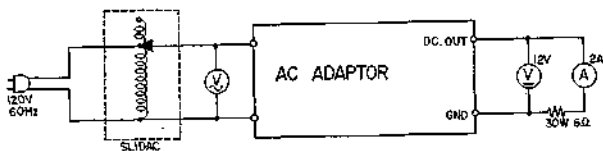
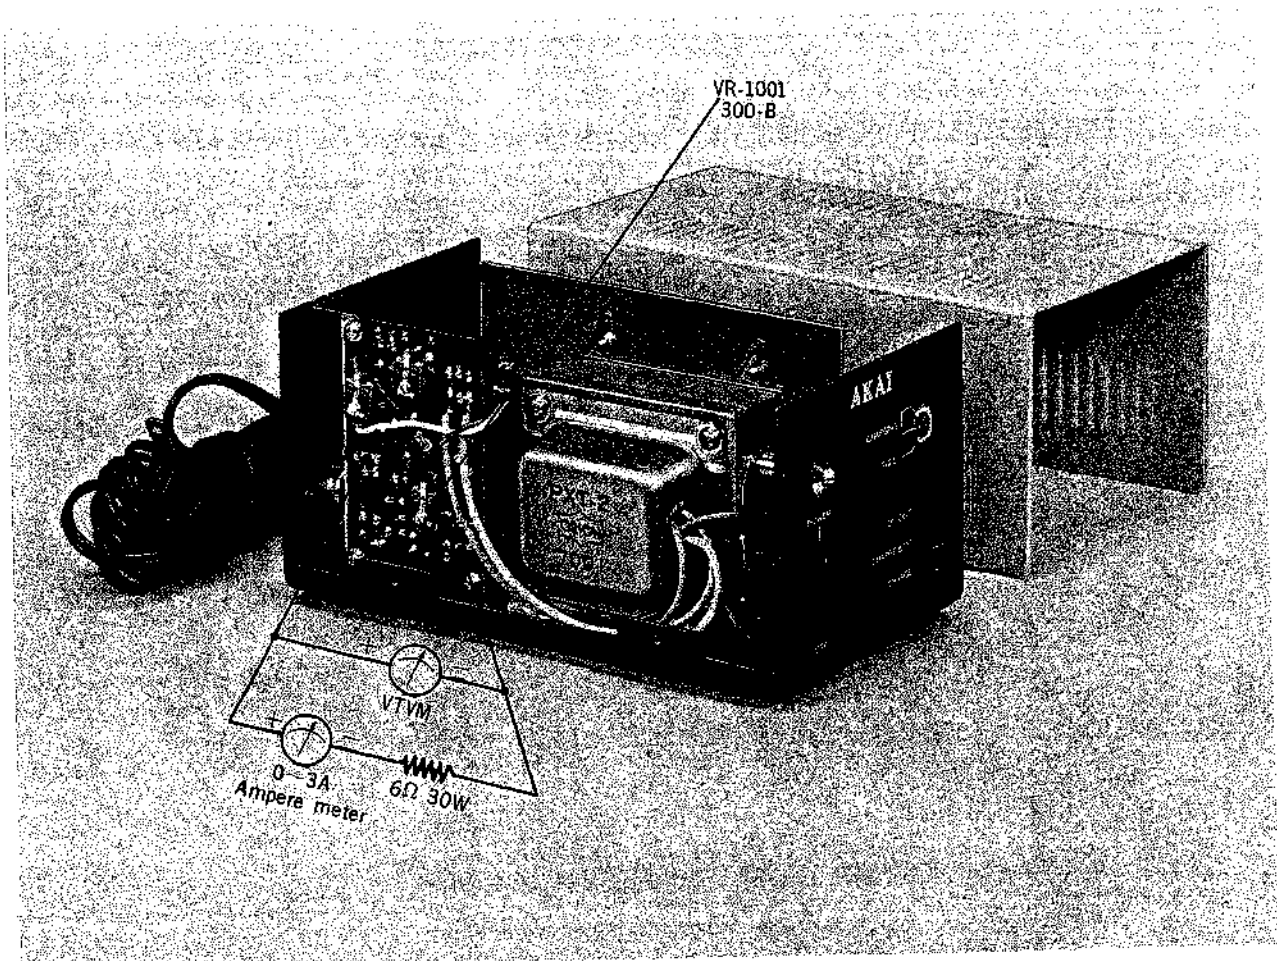

Fig. 4-1
Fig. 4-2
Connect an Ammeter (2 A) and Resistor (6Ω 30 W) in series between DC Output and Ground Terminals. At the same time, connect a V.T.V.M. to DC-Output and Ground terminals (See fig. 4-1), and proceed as follows :
2. With Power Switch turned "On", and DC Voltmeter connected to DC output terminal, adjust semi-fixed volume (VR-1001, 300 ΩB) of printed board so that voltmeter reading is 12 V (Ammeter reading is 2 A throughout). (See fig. 4-1 and fig. 4-2)